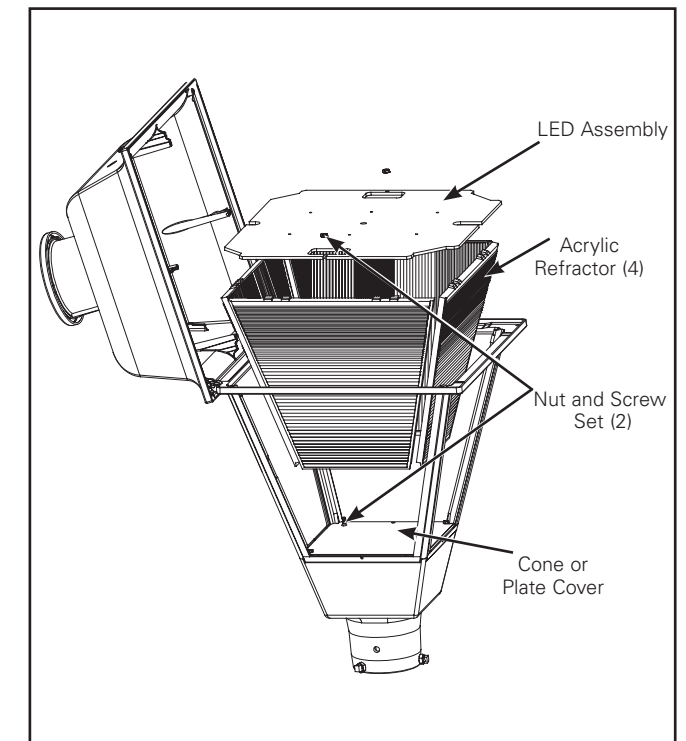

Figure 4.
2. Remove two nuts and screw on LED assembly (Figure 4.) using Phillips head screwdriver and lift LED assembly to side.